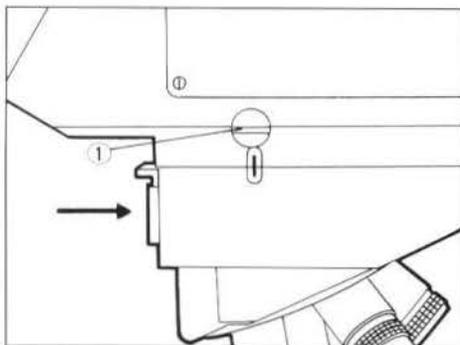

Fig. 11
1. Loosen the nosepiece clamping screw (1), but do not let it fall off. (Fig. 11)
3. Tighten the screw (1). (Fig. 11)